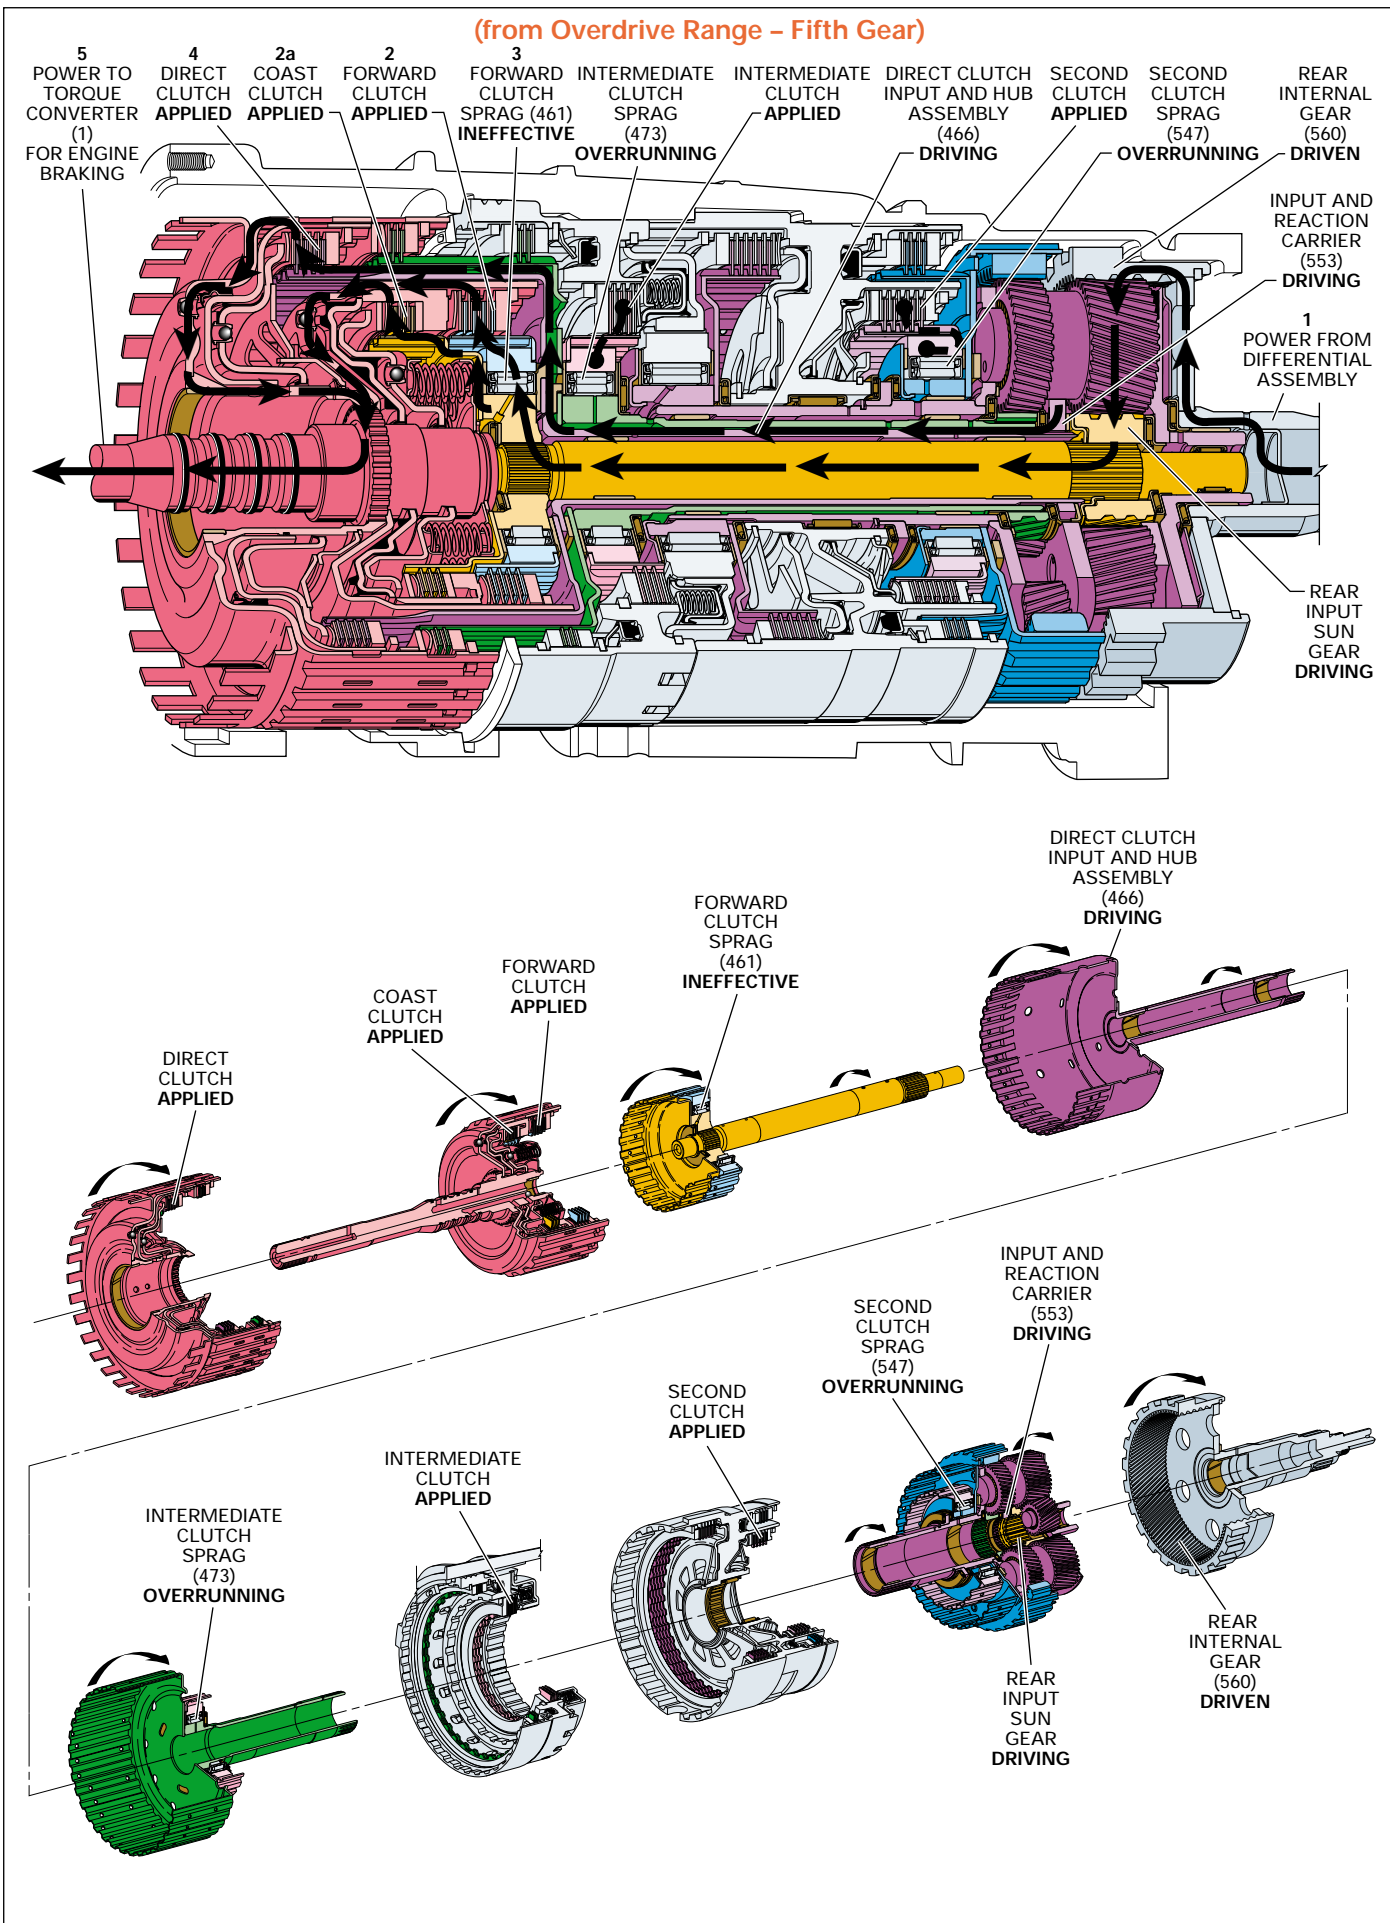

Figure 72
*Note: Transfer of engine torque during acceleration is identical to Overdrive Range – Fourth Gear (refer to page 70A). The power flow in Figure 72 and the following text describes conditions during deceleration (zero or minimum throttle conditions) and how engine compression braking is achieved.*
Vehicle speed provides the torque input to the transmission through the drive shaft and transmission output shaft assembly (562). This is shown by the direction of the power flow arrows in the drawing at the top of Figure 72. Notice that this flow is identical to Overdrive Range – Fourth Gear except that the arrows are in the opposite direction.